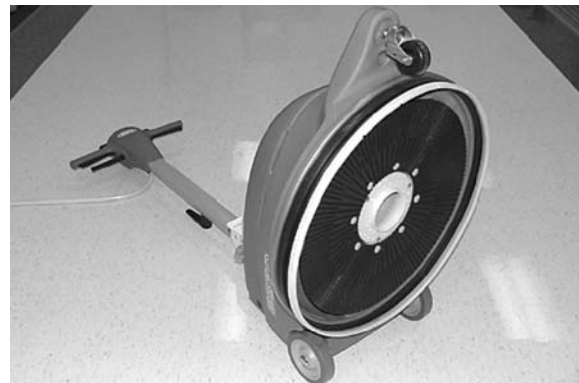

FIG. 1
3. Pull the handle height adjustment lever and raise the handle to the upright position. Carefully tilt the machine backwards and rest the handle on the floor (Figure 1).